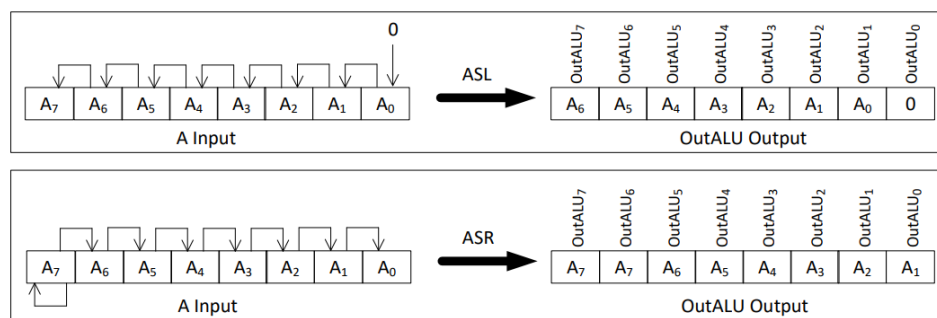

Figure 8: Arithmetic Shift Operations
(Part-2c) Design the **address register file (ARF)** system shown in Figure 8 which consists of four 8-bit address registers: **program counter (PC)**, **address register (AR)**, **stack pointer (SP)** and **past program counter (PCPast)**. FunSel and RSel works as in **Part-2b**.